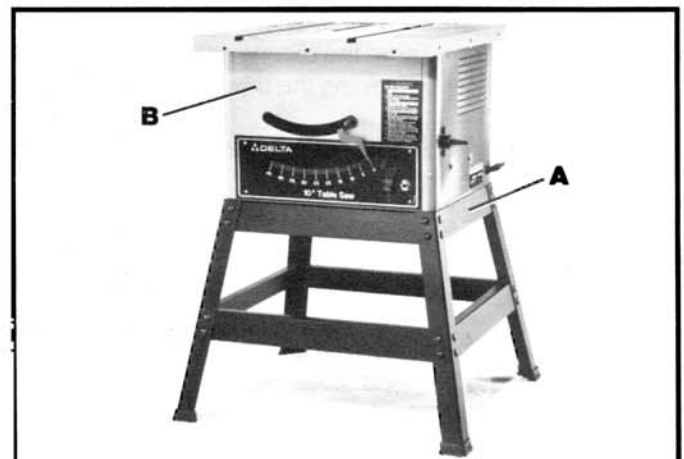

Fig. 5
1. Position the saw (B) on the stand as shown in Fig. 5, lining up the four holes on the bottom of sides of the saw cabinet with the four holes in the two top side braces, one of which is shown at (A).